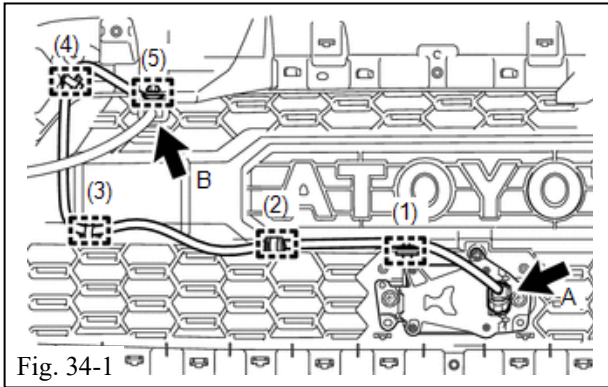

Fig. 34-1
- (a) Engage the 5 clamps to install the radar sensor wire. (Fig. 34-1)